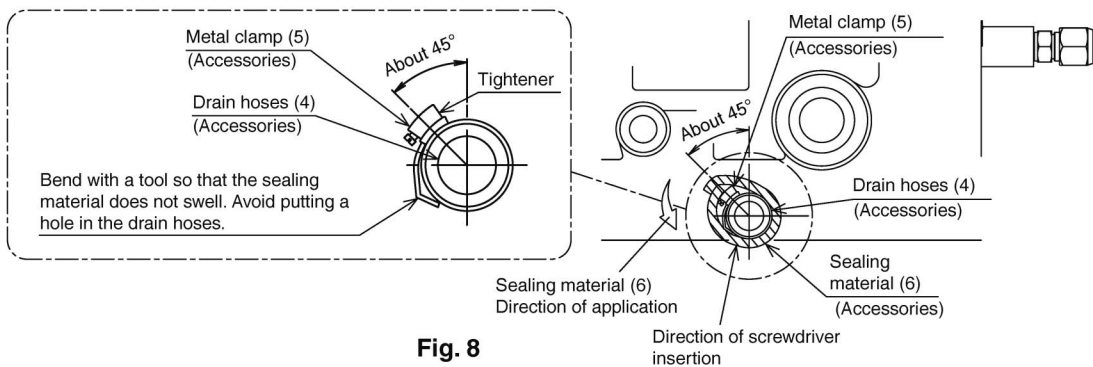

Fig. 8
- Bend the tip of the metal clamp (5) so that the sealing material does not swell. (Refer to Fig. 8.)